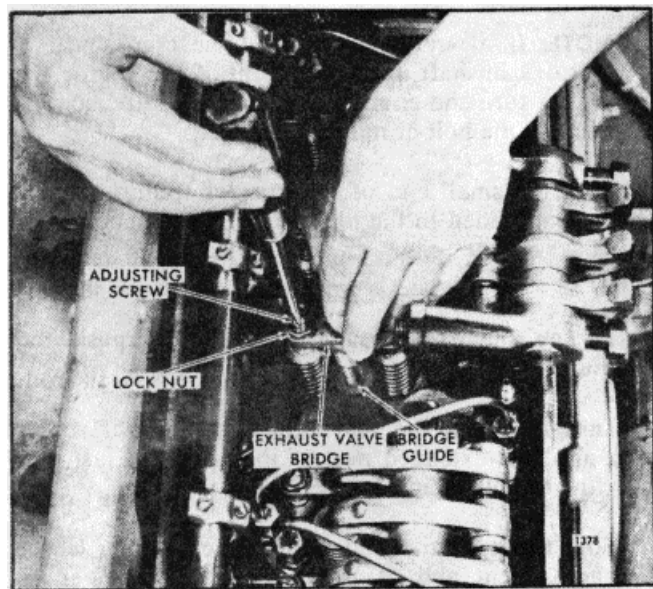

Fig. 2. - Bridge Balancing Adjustment
2. Remove the exhaust valve bridge (Fig. 2).